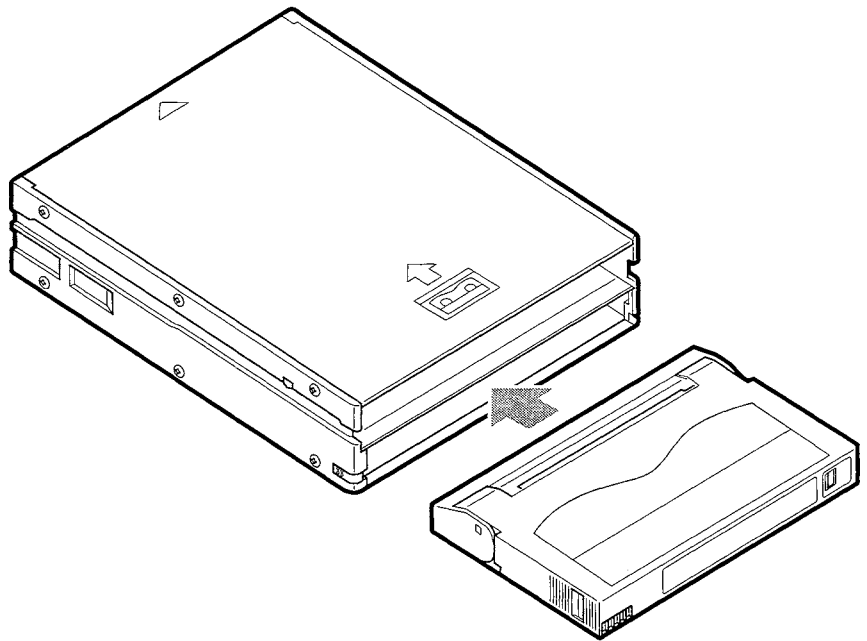

Figure 4-7. Insert two tapes into the bottom slot
1. Hold the magazine upright. Insert two tapes in the bottom slot. See Figure 4-7.